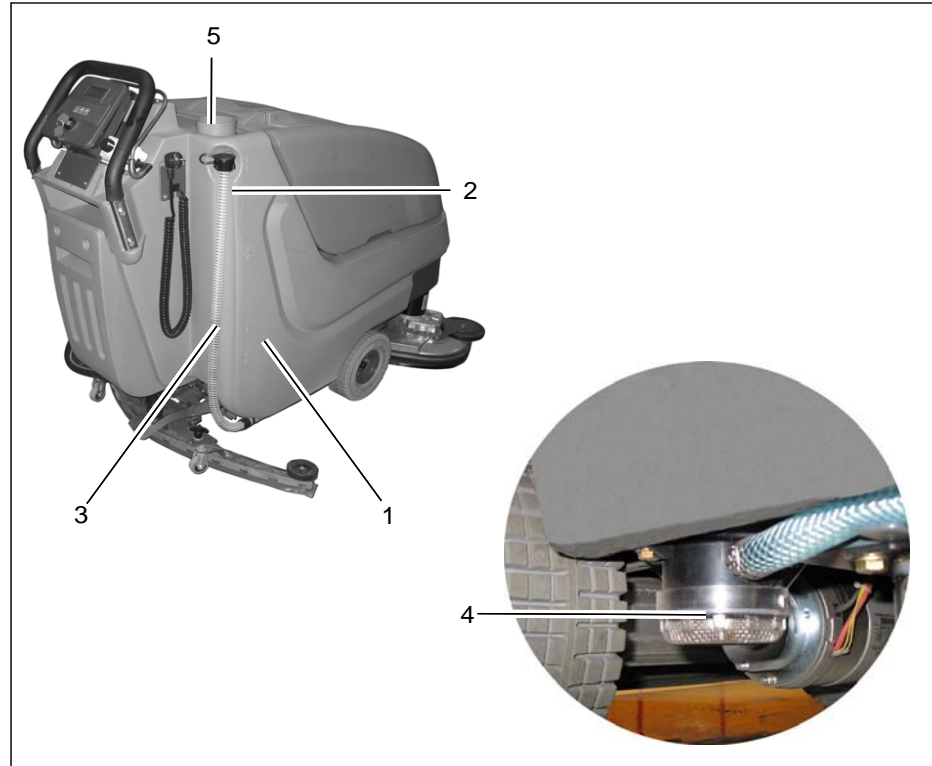

Fig.8
Fill solution tank (Fig. 8/1) before work or as required. Park machine on level ground. Open tank lid (Fig. 8/5) and fill tank up to the maximum (1/1 marker) (Fig. 8/2).
Alternatively, filling of the machine via quick coupling (Fig. 8/6) is available. Before doing so, connect the filling hose of the dosage unit and the quick coupling. The floater valve automatically closes after the maximum filling level has been attained.
Park machine such that the fill level hose (Fig. 8/3) is located above the drain aperture in the floor. Take fill level hose from holder and remove lid.
Check solution filter (Fig. 8/4) at weekly intervals and clean or replace if required.
- 1 Empty solution tank (Fig. 8/1), see paragraph 5.5.2.